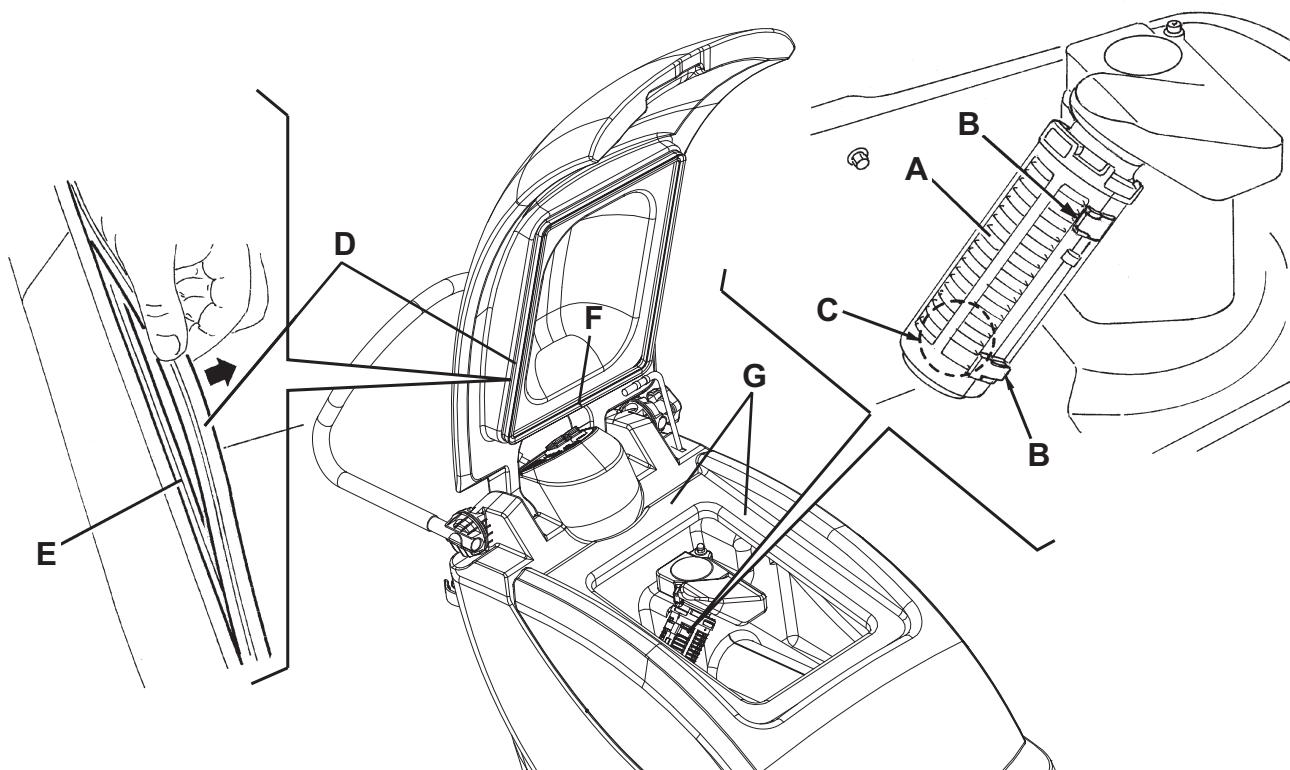

Figure 5
2. Make sure that the power supply cable (21) is disconnected from the electrical mains.
3. Open the cover (6), then clean and wash the cover, the tanks (26 and 27) and the vacuum grid (36) with clean water. Drain the water from the tanks with the drain hose (16) and the valve (18).
4. If necessary, release the fasteners (B, Fig. 5) and open the grid (A); recover the float (C), clean all the components and then reinstall them.
5. Check the recovery tank cover gasket (D) for integrity.
*The gasket (D) creates vacuum in the tank that is necessary for vacuuming the recovery water.*